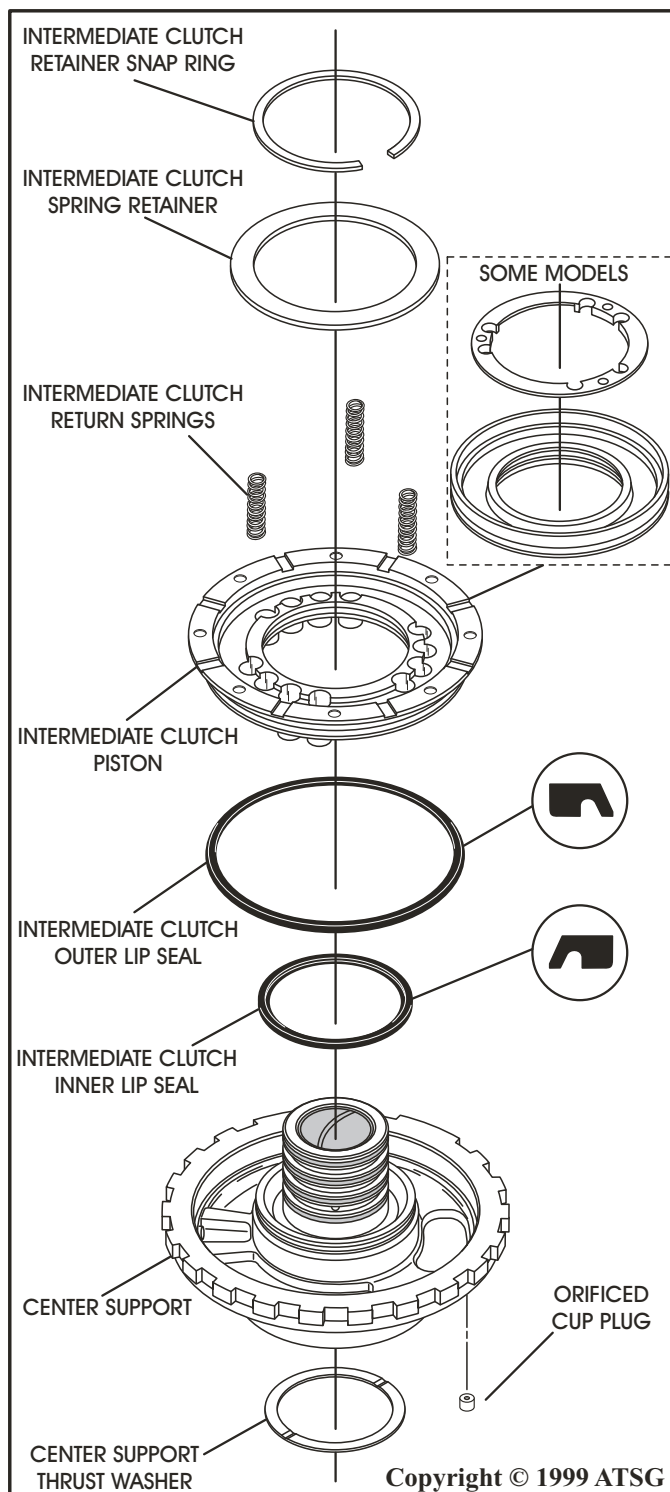

Figure 69
32. Disassemble the center support assembly using Figure 69 as a guide.
35. Ensure that orificed cup plug is in place, as shown in Figure 69.
36. Install a new intermediate clutch outer lip seal into the groove in the piston, in the direction shown in Figure 69.
37. Install a new intermediate clutch inner lip seal into the groove in the piston, in the direction shown in Figure 69.
38. Install four new sealing rings into the grooves in the center support (See Figure 69).